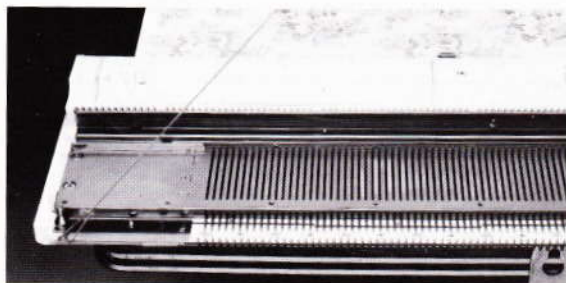

Fig. 51
- Thread the yarn through the tension assembly and with a slip knot hook the end to the clamp under the machine at the left-hand side (fig. 51).